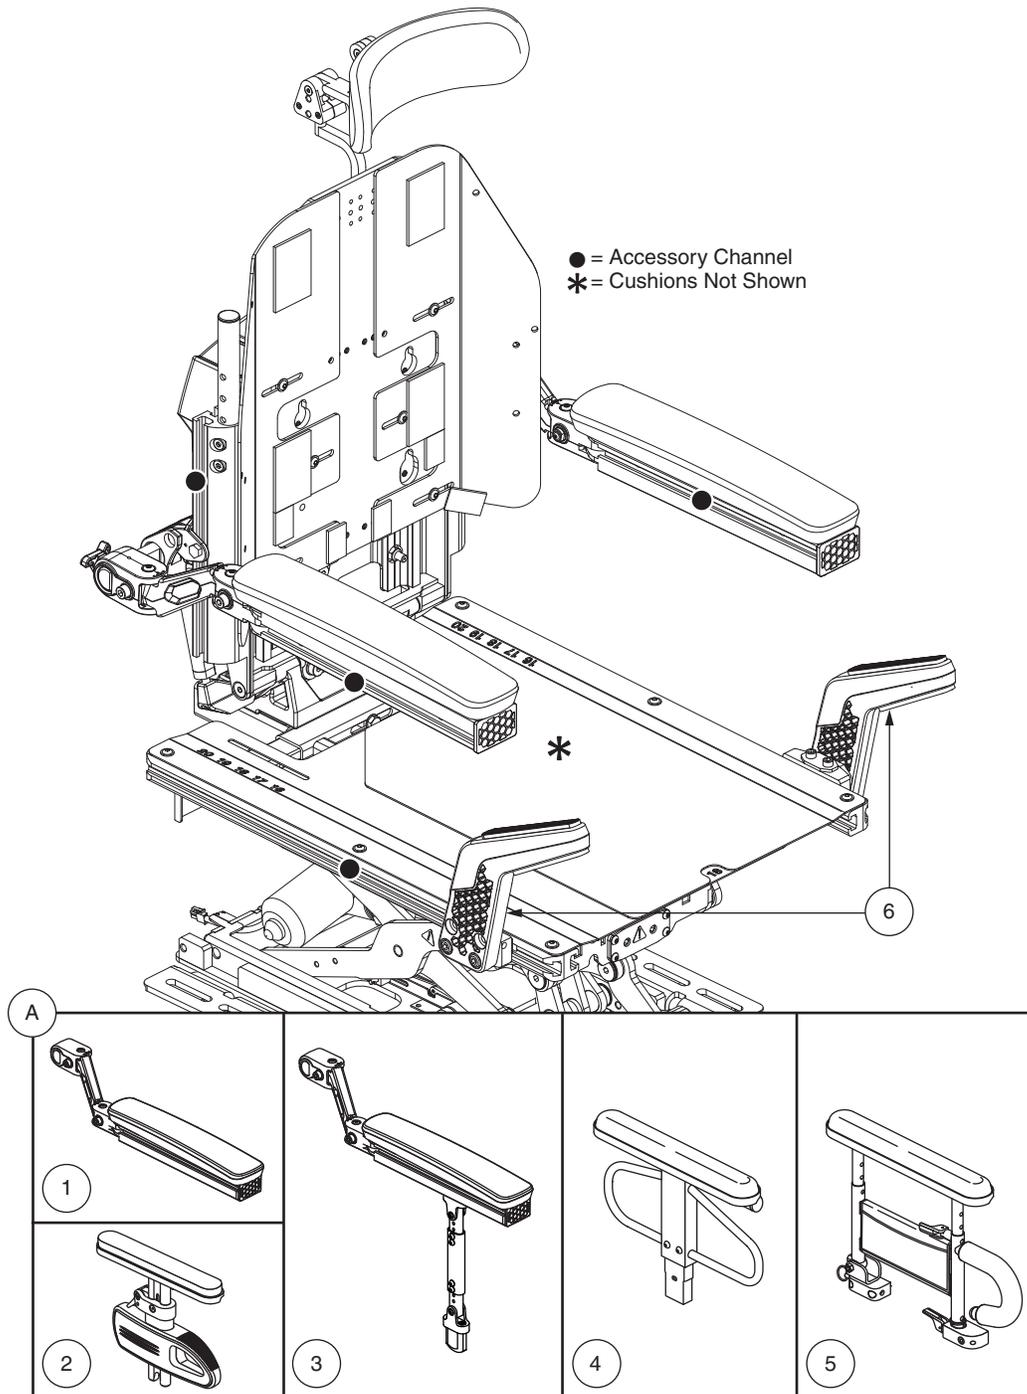

Figure 1. TRU-Balance® 3 Power Positioning Components
**Figure 1** provides information on the TRU-Balance® 3 Power Positioning System components shown with a standard back. The components of the TRU-Comfort 2 back are described in "TRU-Comfort 2 Components" (**figure 23**). Use these diagrams to familiarize yourself with the function and location of each component before using the TRU-Balance® 3 Power Positioning System.